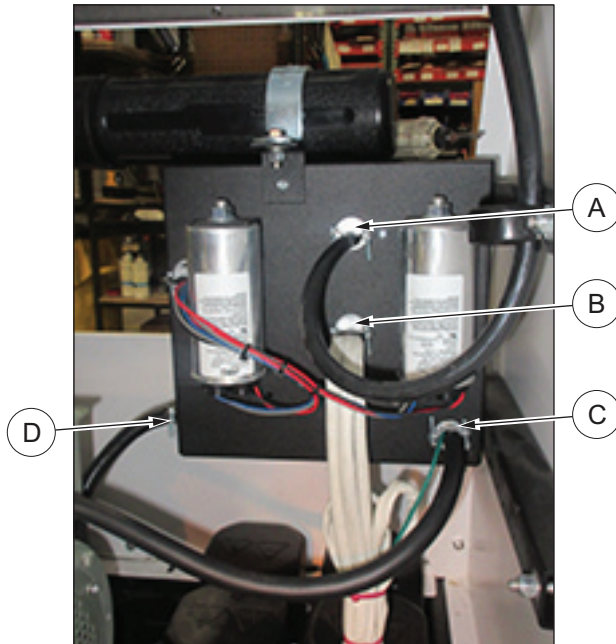

Figure 13 - Control Box Strain Reliefs
6. See Figure 13. On back of control box, loosen the **upper** and **middle** strain reliefs.